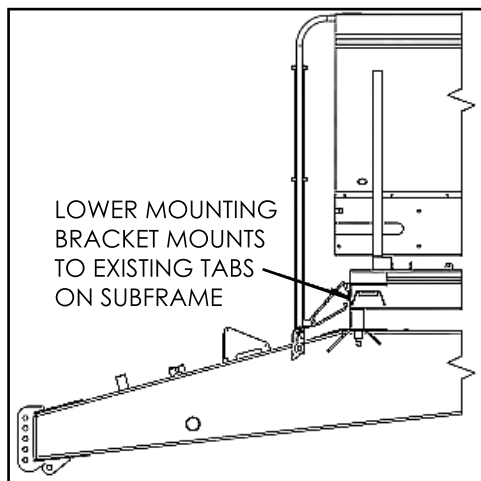
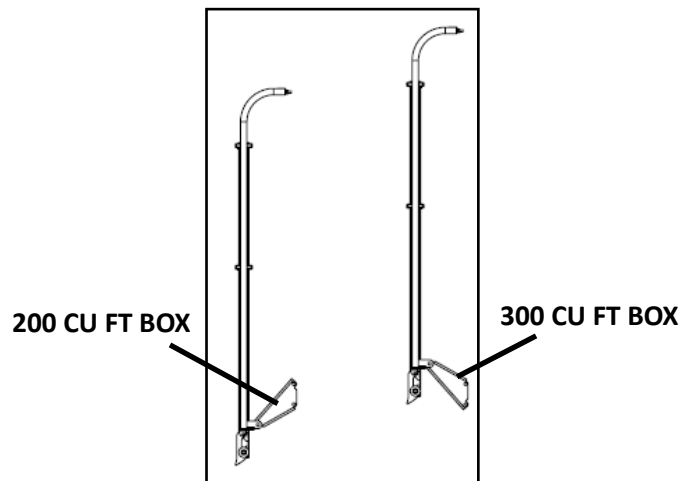

Figure 21a- Mount Lower Bracket to Subframe Tabs
Figure 21b - Lower Mounting Bracket Position
2. Loosely mount lower mounting bracket to existing tabs on subframe using hardware provided (Figure 21a). Box size determines lower bracket position, as shown in Figure 21b: